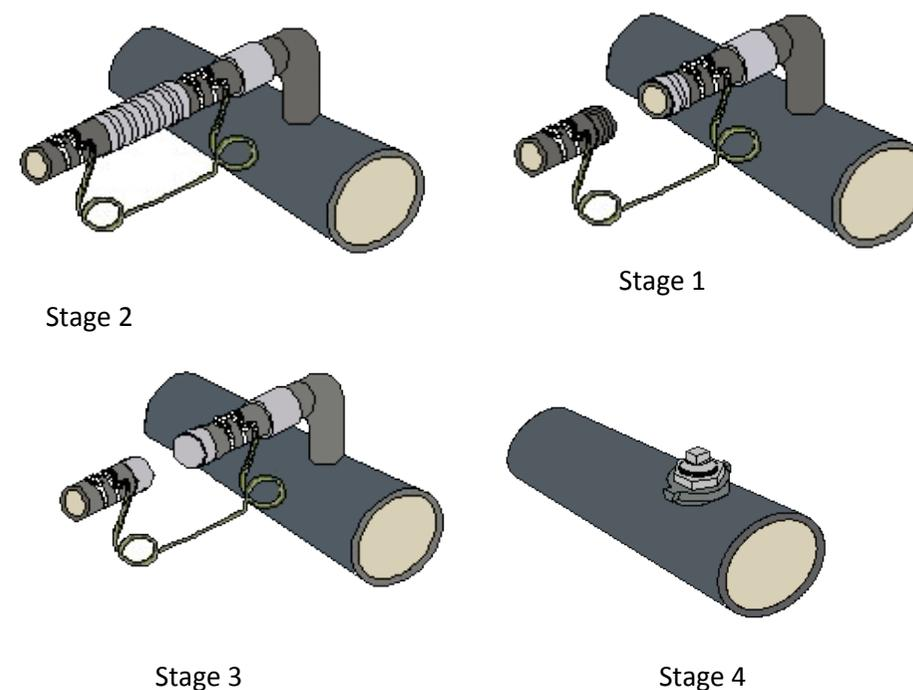

Figure 29 - Cut off metallic service with service bend to main
1. Refer to Section 14.8.2b and Figure 29 Stage 1-4 regarding the cutting of the service pipe.